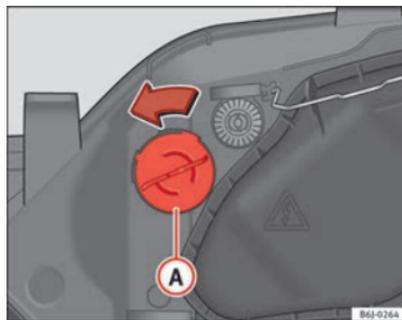

Fig. 157 Turn signal
- Rotate the bulb holder ⇒ fig. 157 Ⓐ to the left and pull.